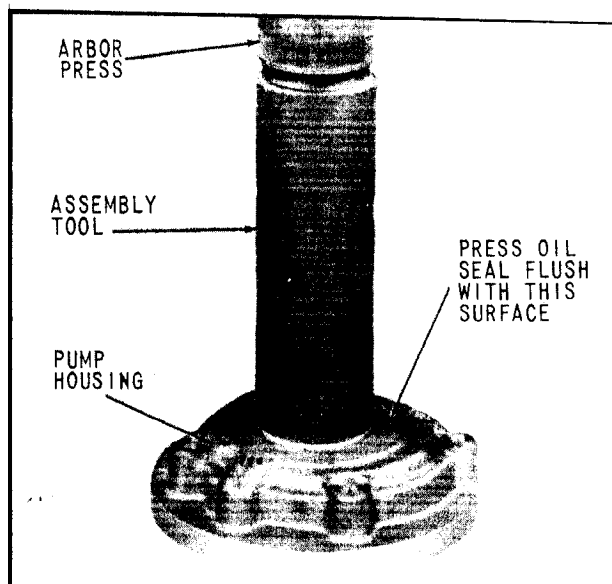

Fig. 93 Pressing Oil Seal
7. Using an arbor press and suitable tool, press seal into housing until front face of seal is flush with front face of pump housing. (Fig. 93).